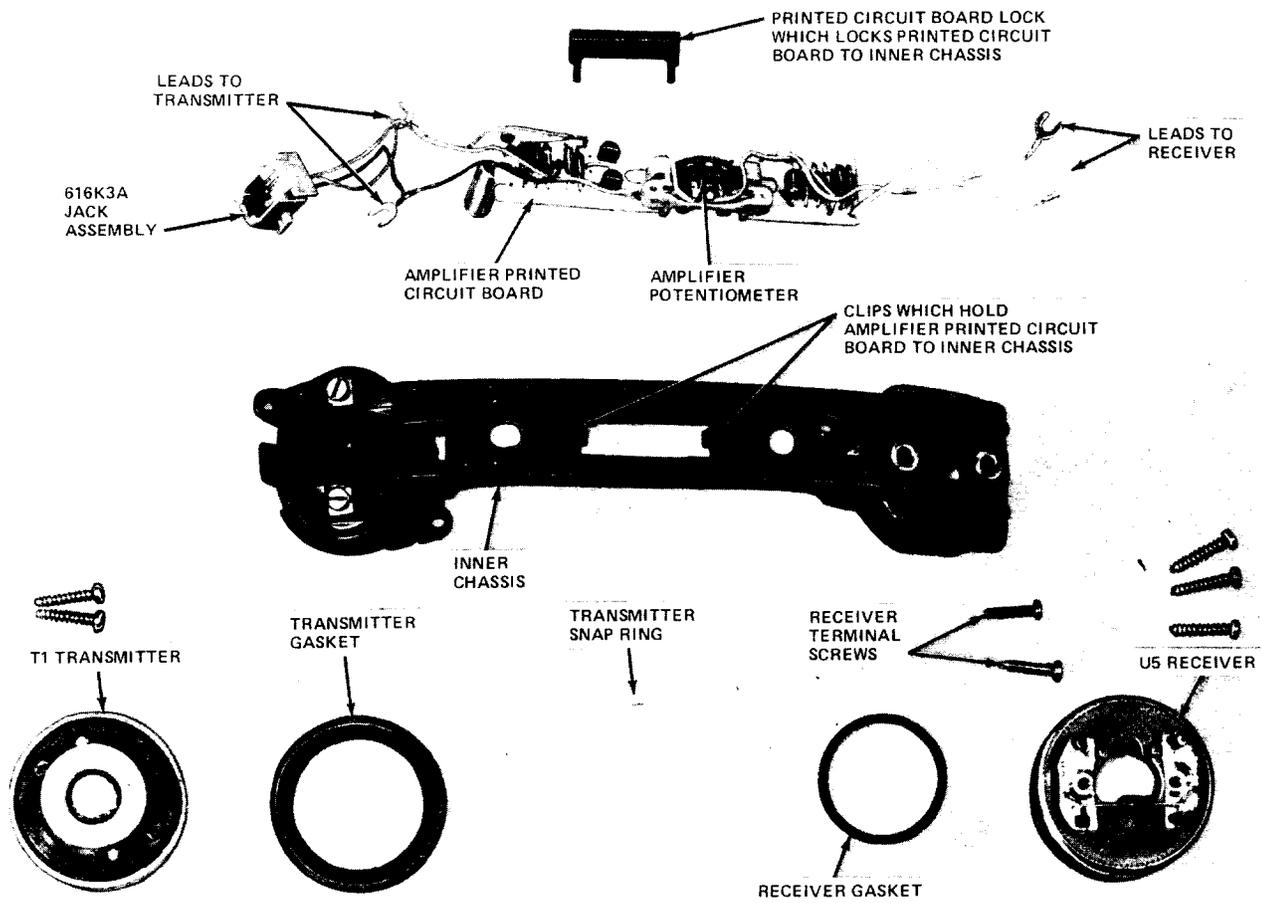

Fig. 7—K6-Type Breakdown of Impaired Hearing Handset Inner Chassis
**4.02** The transmitter in the K-type handsets is held to the inner chassis by a plastic snap ring (Fig. 7).